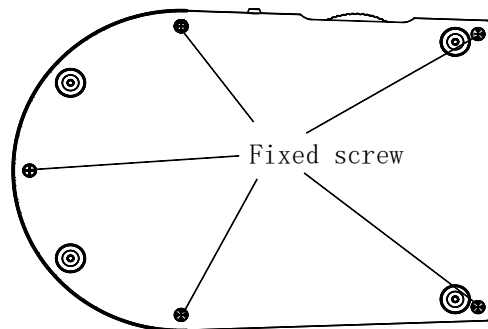

Fig. 8
B. Open the base: Laying the microscope steadily on the table,unscrew the fixed screw and pull out the buttom base cover. (Fig.8)